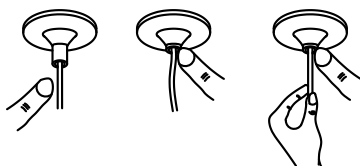
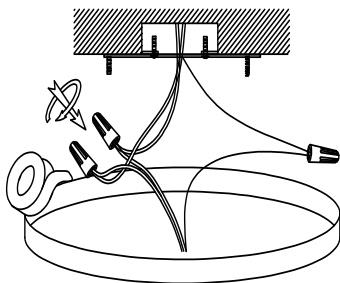

Fig. 2
Fig. 3
**Step 1:** Press the wire locker and adjust the hanging wire to get a proper height and style (Fig. 2 and page 6).
**Step 2:** Connect the fixture wires (E) to the house wires (G), bare copper/green/yellow and green wire to ground wire, white or green to neutral wire, black or brown to hot wire. Wrap the connectors with electrical tape (H) separately.
**Step 3:** Spread apart the wires so that the live wires are on one side of the outlet box and the neutral wires are on the other side (Fig. 3).